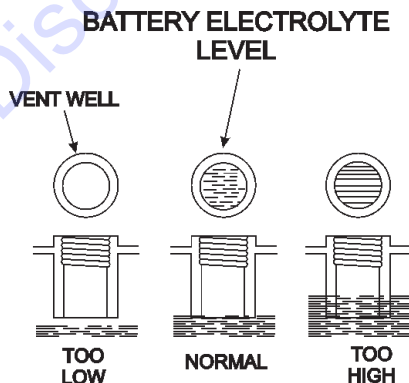

Figure 41. Battery Electrolyte Levels
- Check the battery regularly and make sure that each electrolyte level is to the bottom of the vent well (Figure 41). If necessary add only distilled water in a well-ventilated area.